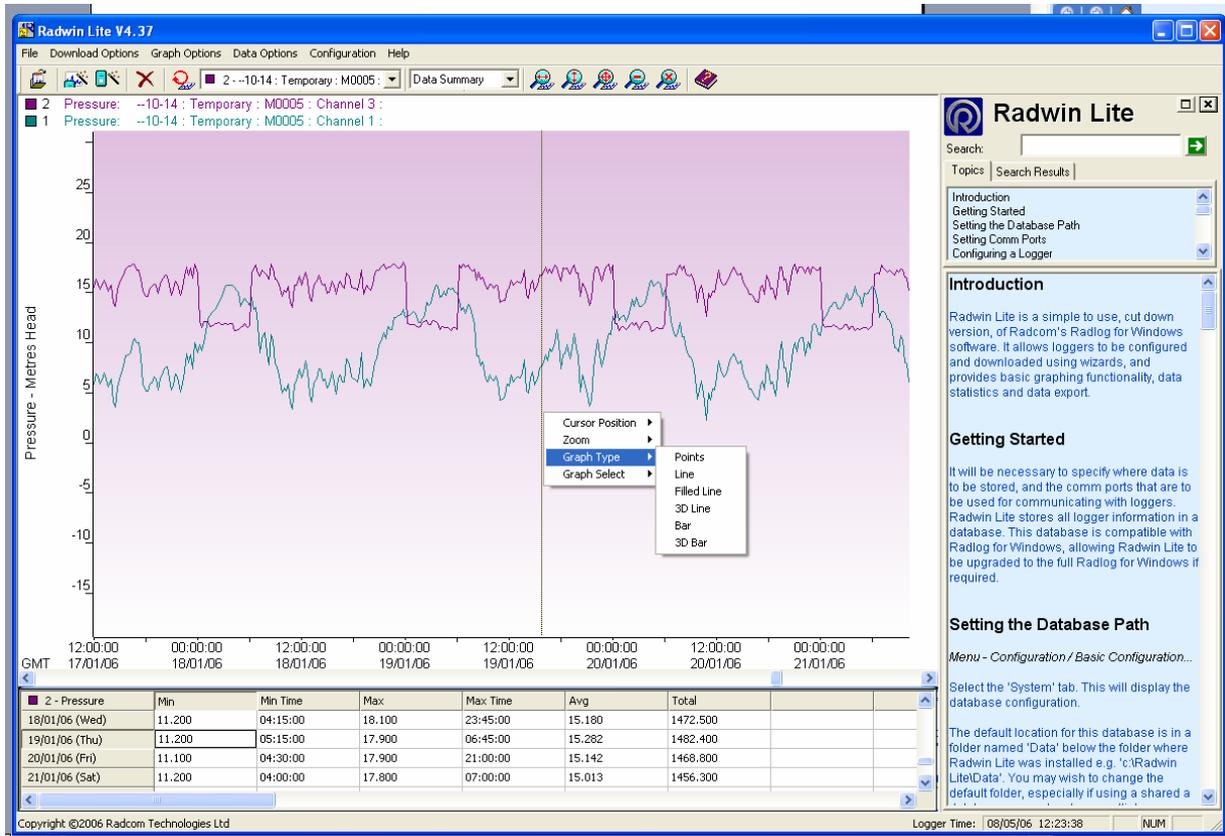

Figure 27 – Selecting the Graph Format
- right clicking on the mouse and selecting the required **Graph Type** or **Zoom** option (see Figure 27).